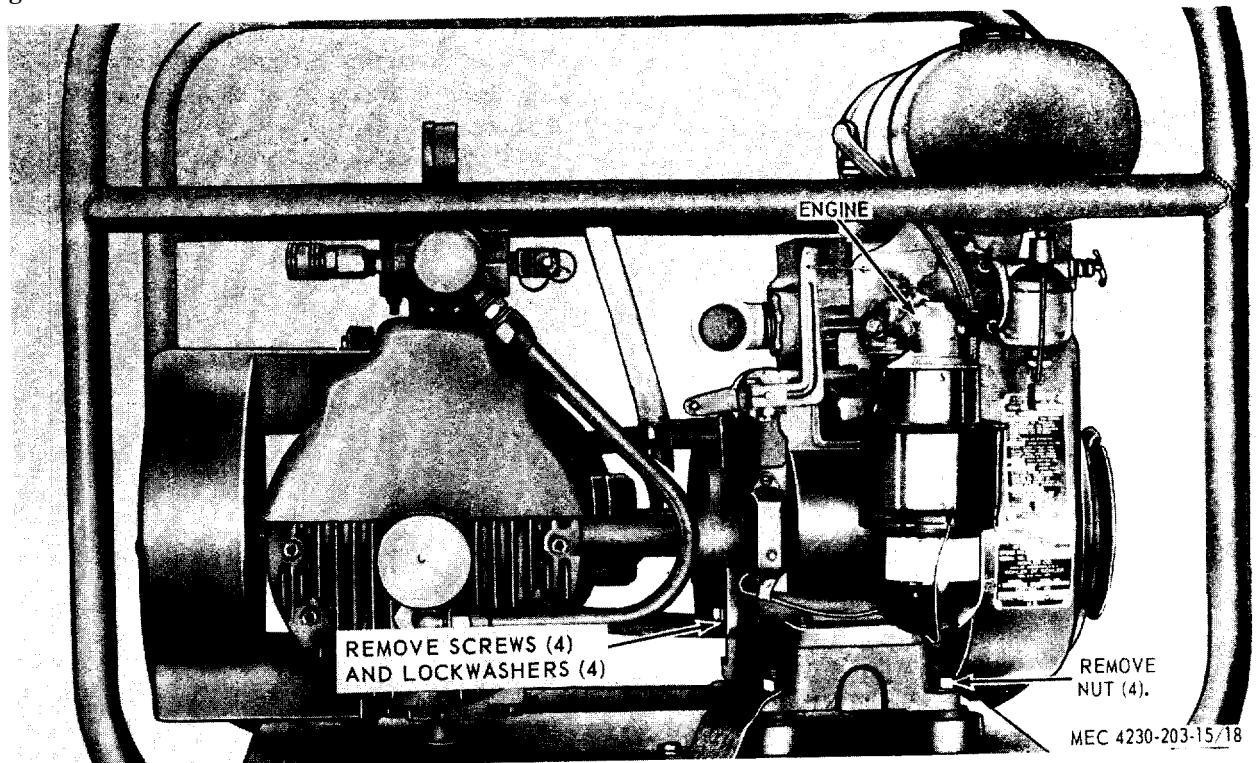

Figure 4-11. Engine removal and installation.
a. *Removal.* Refer to figure 4-11 and remove the engine.